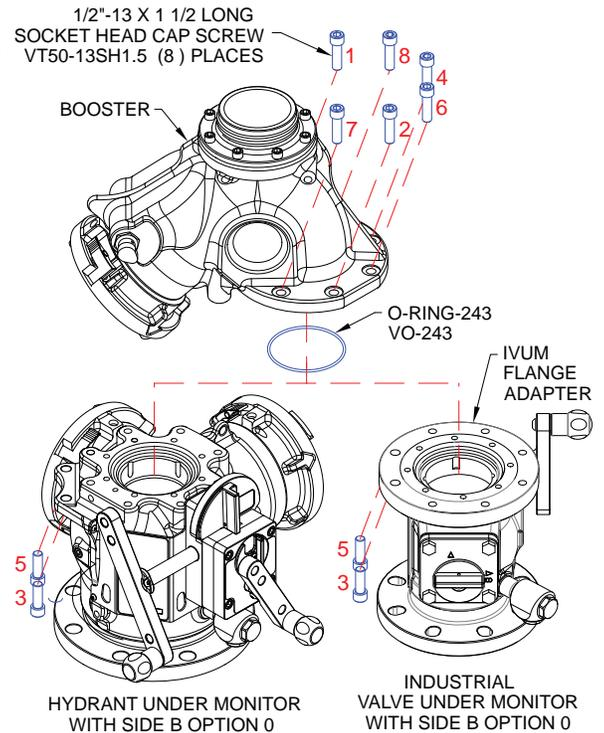

Figure 4.2.1: Installation on HUM or IVUM
Refer to figure 4.2.1.
4. Apply Loctite 242 (blue) thread-locking adhesive to (8) supplied $\frac{1}{2}$ -13 x 1.5" screws, then hand tighten into the locations shown until the screw heads are bottomed out. Screw numbers 3 and 5 are inserted up thru the HUM or IVUM, then into the Booster. The other six screws are inserted through the Side A Inlet flange of the Booster.
5. Tighten the (8) screws to 40 to 45 ft-lb (54-61 N-m) torque in the alternating sequence shown on figure 4.2.1. Tighten at graduated intervals of 30%, then 60%, and finally 100% of the specified torque.